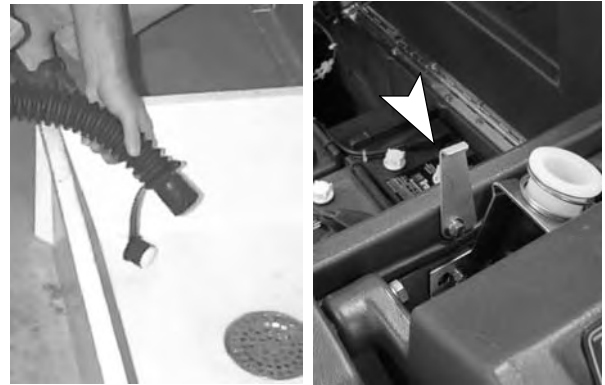

FIG. 20
1. Remove drain hose from holder, position hose over floor drain and twist off drain hose cap. To completely drain recovery tank, hinge open tank and flip up tank support stand to rest tank on (Figure 20).